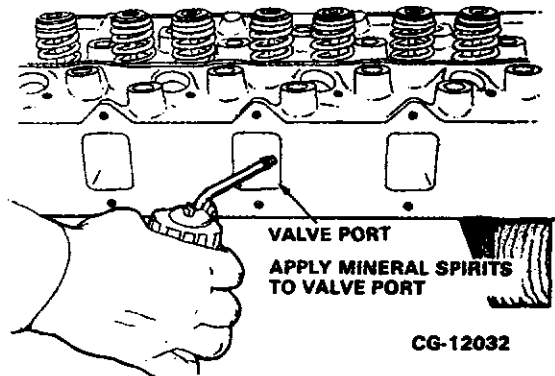

Figure 4.14. Mineral Spirits Test for Valve Leakage
- b. Squirt mineral spirits into the intake and exhaust valve ports as shown in Figure 4.14.